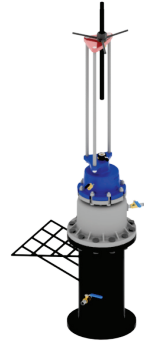

Figure 72
5.1.3 Place the Hydra-Tapper / P-20 assembly on top of the insertion housing with the pointed end of the P3 facing the same direction as the step stand of the housing, cross tighten with supplied bolts, nuts, and washers (see Figure 72).